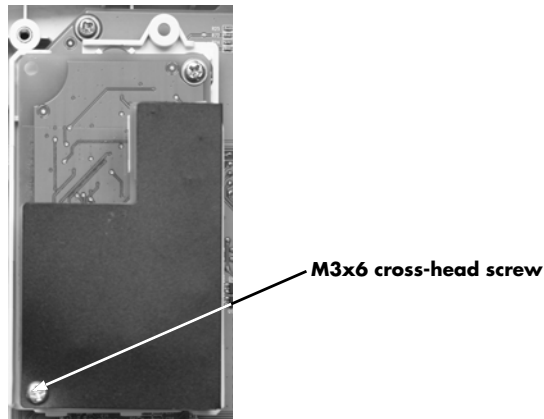

FIGURE 4-28 Remove one M3 X 6 cross-head screw
1. Remove the M3x6 cross-head screw (as shown in FIGURE 4-28).